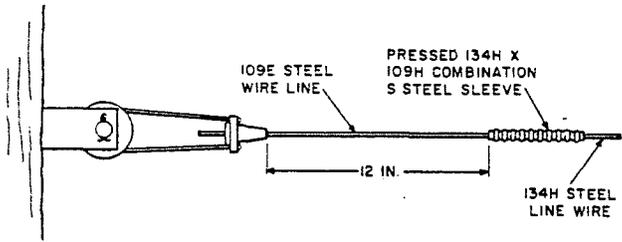

Fig. 8—Wirevise Installed on 134H Wire Line
- (1) Place the 109 Wirewise as explained in 4.03 (1) through (3).
- (2) Pull the 134H wire to proper tension and cut it about 14 inches from the small end of the cartridge of the 109 Wirewise.
- (3) Join a piece of 109 E or 109 F Steel Line Wire to the end of the 134H wire with a 134H x 109H Combination S Steel Sleeve.
(4) Cut the 109E or 109F wire to the proper length and insert the end of the wire in the small end of the cartridge. Push it through until all the slack is taken up. About one inch should extend beyond the cartridge, and there should be about 12 inches between the cartridge and the 134H x 109H sleeve.
(5) Apply tension to the 109 Wirevise by slowly releasing the slack blocks or wire puller. Fig. 8 shows Wirevise installed.